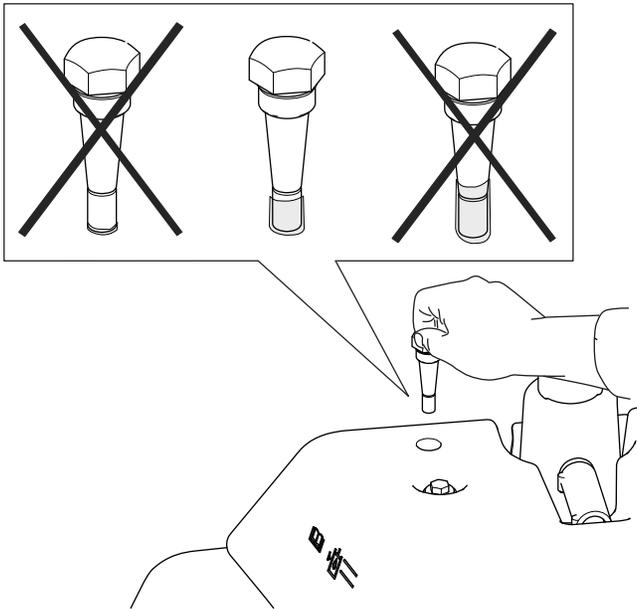

Figure 49
4. Remove the dipstick and check the fluid level. If it is between the marks on the dipstick, the level is sufficient. If the fluid level is not between the marks, adjust the fluid level accordingly (Figure 49).